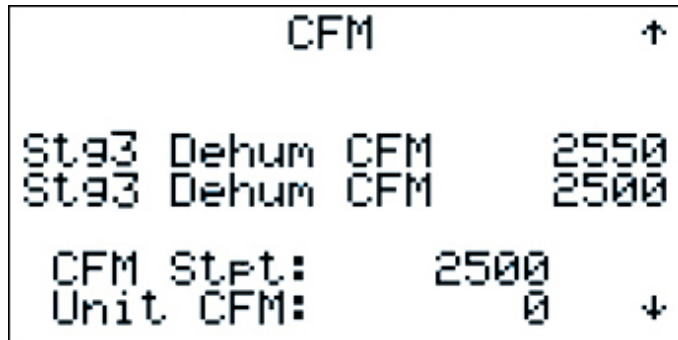

Figure 17
Pressing the **Dwn** key will display the unit CFM status screen shown in Figure 17. The Electronically Commutated (EC) fans will modulate to control the unit CFM to the CFM setpoint. The CFM setpoint is driven by stage 3 of cooling, and stage 3 of dehumidification. The CFM setpoints from the various stages are displayed in the middle of the screen. The unit CFM setpoint will select the maximum of these values, which is displayed towards the bottom of the screen. At the very bottom of the screen the calculated unit CFM is displayed.